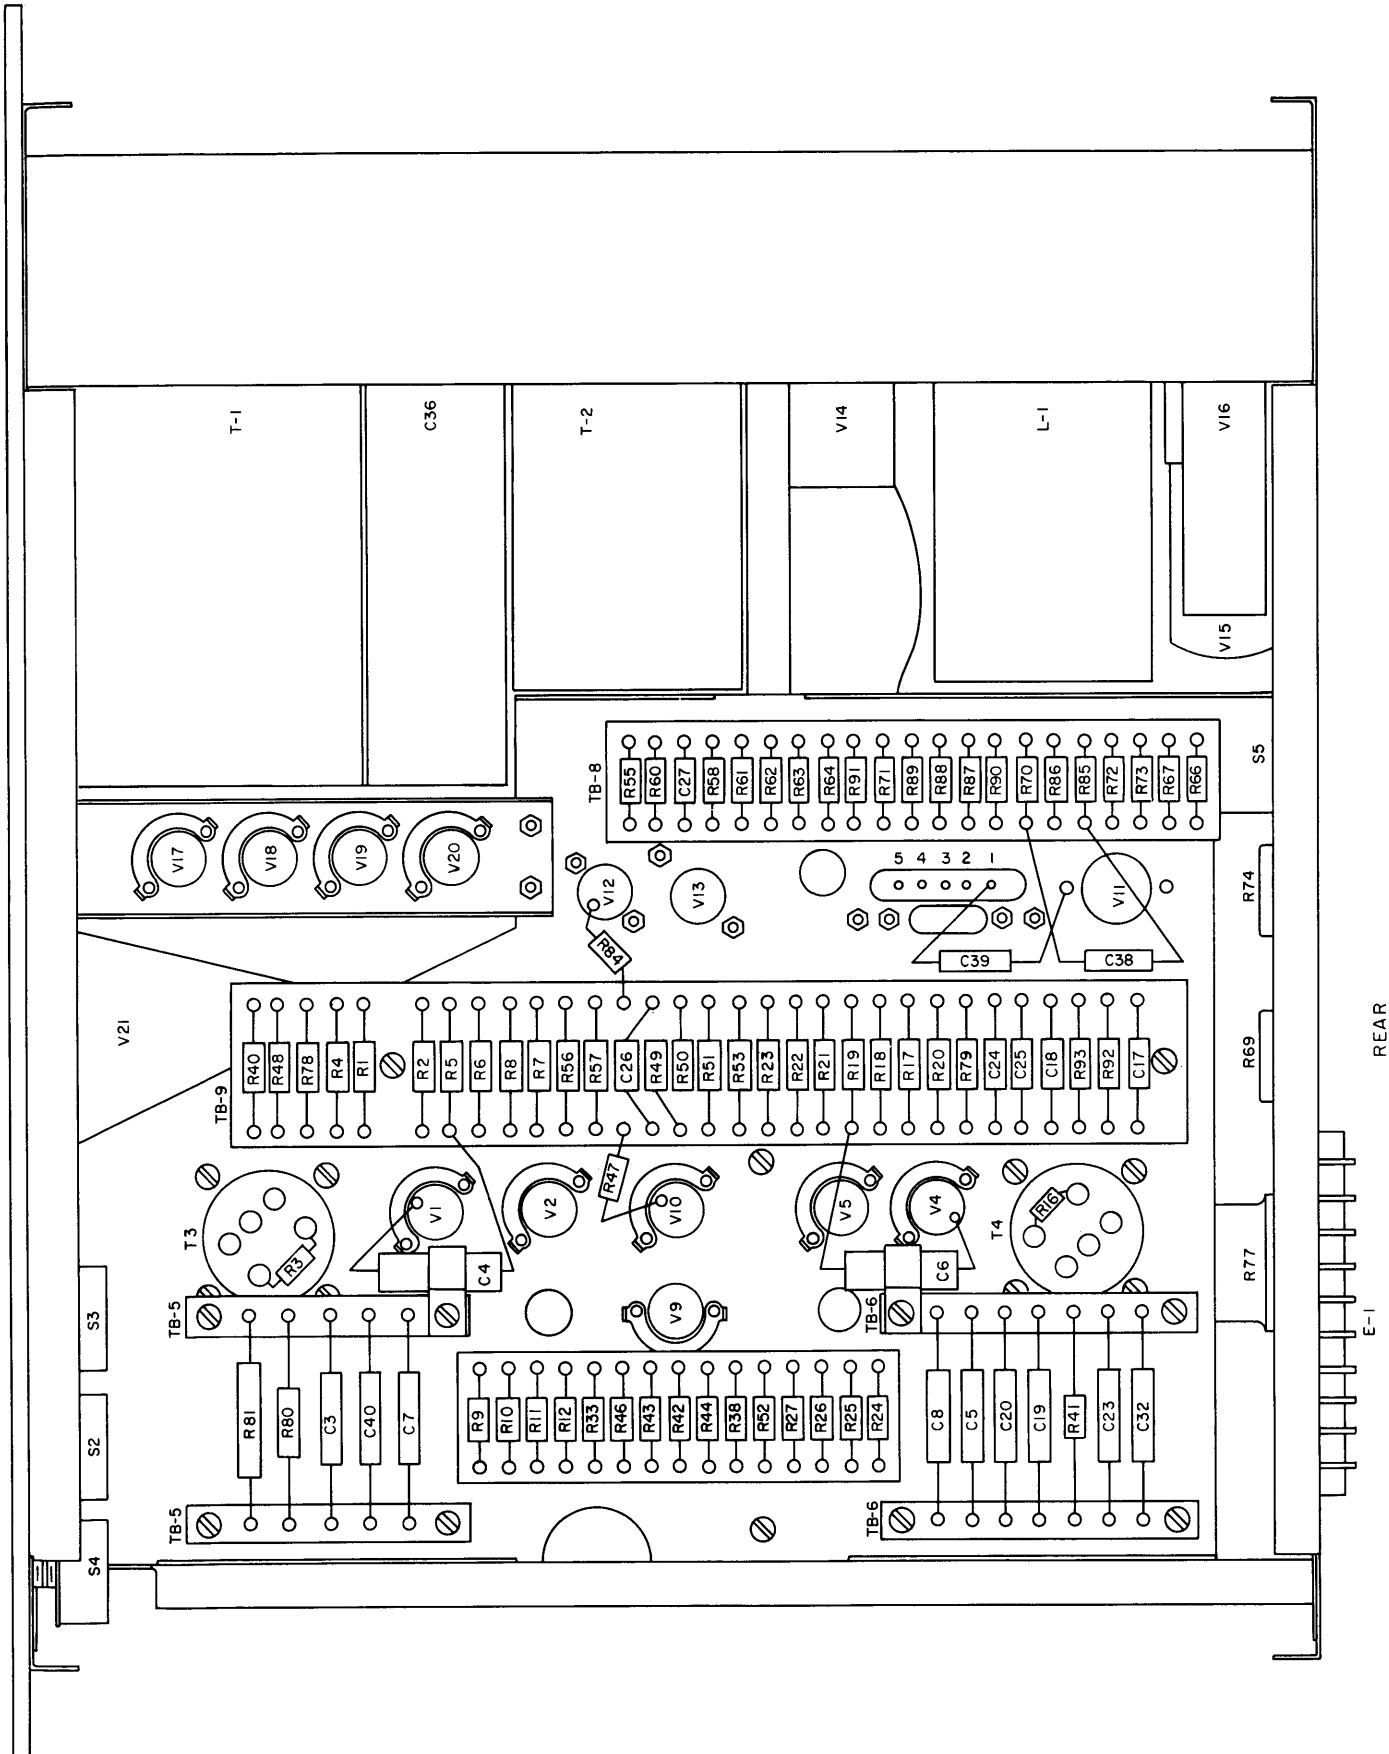

Figure 5-3. Model CFA, Component Layout, Bottom View
- e. Component layout data (figures 5-3 and 5-4)